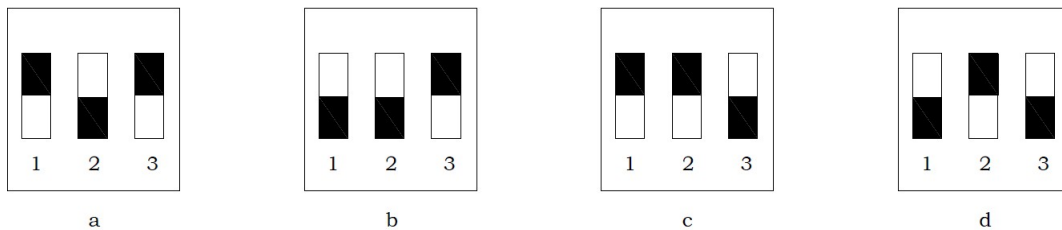

Figure3.11.3A-Red State Switch
- ◆ Through the above adjustments engine still unable to stability, it needs to be adjusted Red State Switch now, Figure3.11.3A four cases (a: RSW-1、RSW-3 = ON、RSW-2 = OFF; b: RSW-1、RSW-2 = OFF、RSW-3 = ON; c: RSW-1、RSW-2 = ON、RSW-3 = OFF; d: RSW-1、RSW-3 = OFF、RSW-2 = ON). After every adjusting Red State Switch go on the (1) and (2) adjusting procedure again. If it is still unable to stability, should inspect engine and fuel pump for service condition. And then, contact with manufacturer.